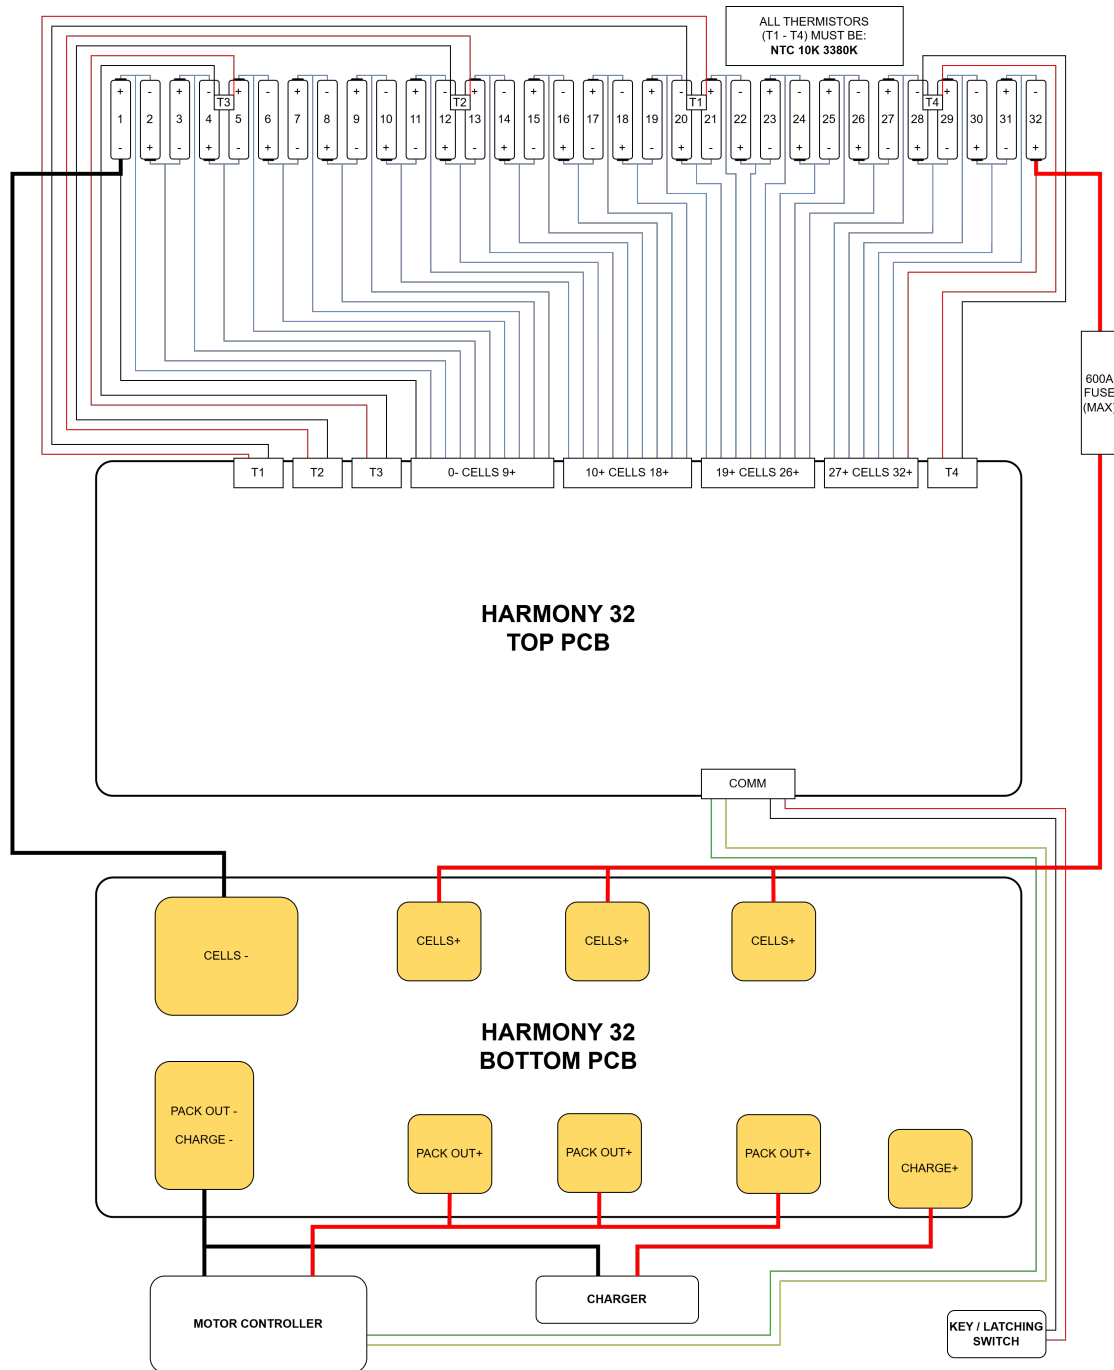

Figure 7: 32s Wiring Diagram
- If the number of cells is greater than to 23, please refer to Figure 7.